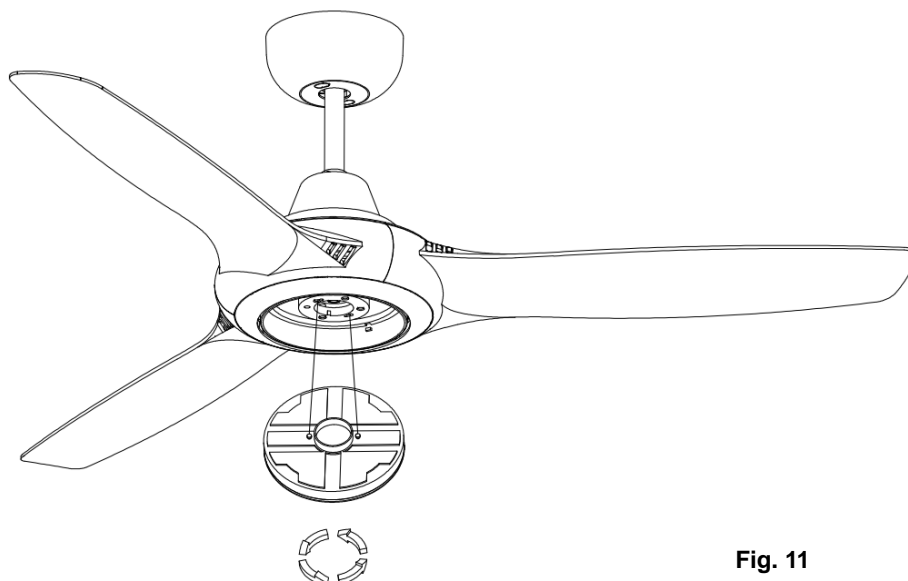

Fig. 11
- Install the lamp on the fan assembly then secure it by turning clockwise. (Fig. 11)